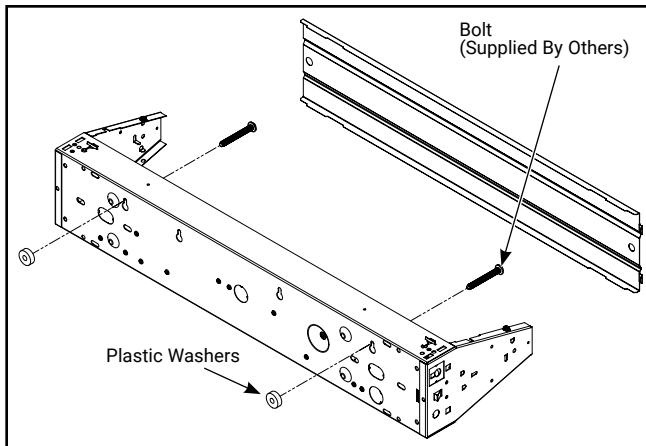

Figure 3. Mount To Wall
1. Remove channel cover by turning channel fastener $\frac{1}{4}$ turn (Figure 3).